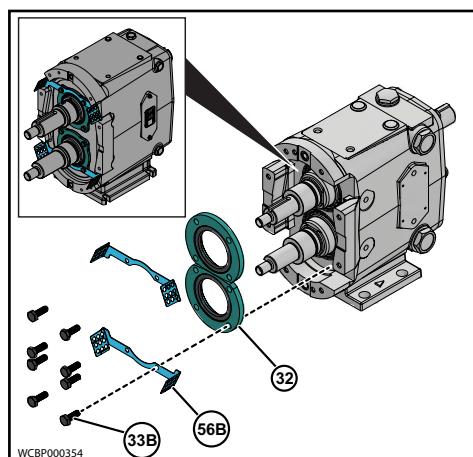

Figure 63 - Install Bearing Retainer and Seal Guard
NOTE: The Figure 63 is shown for reference only.
20. Install the Bearing Retainers (32) and Seal Guard-Horizontal (56B). Tighten them with bearing retainer screws (33B), as shown in Figure 63.